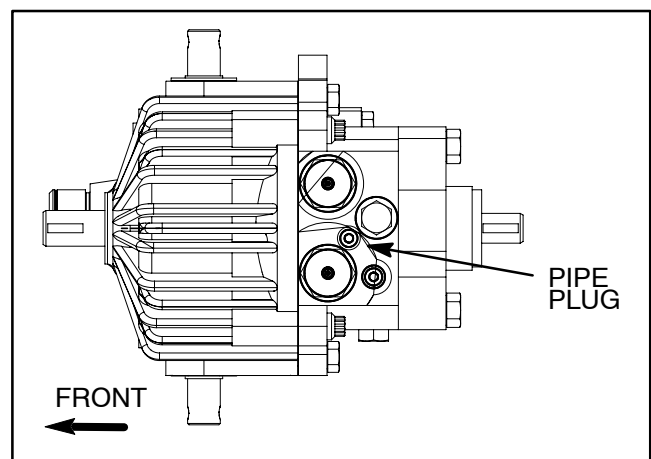

Figure 11
3. Thoroughly clean the area around the pipe plug located on the top of the transmission between the charge check valves (Fig. 11). Remove plug from the transmission.